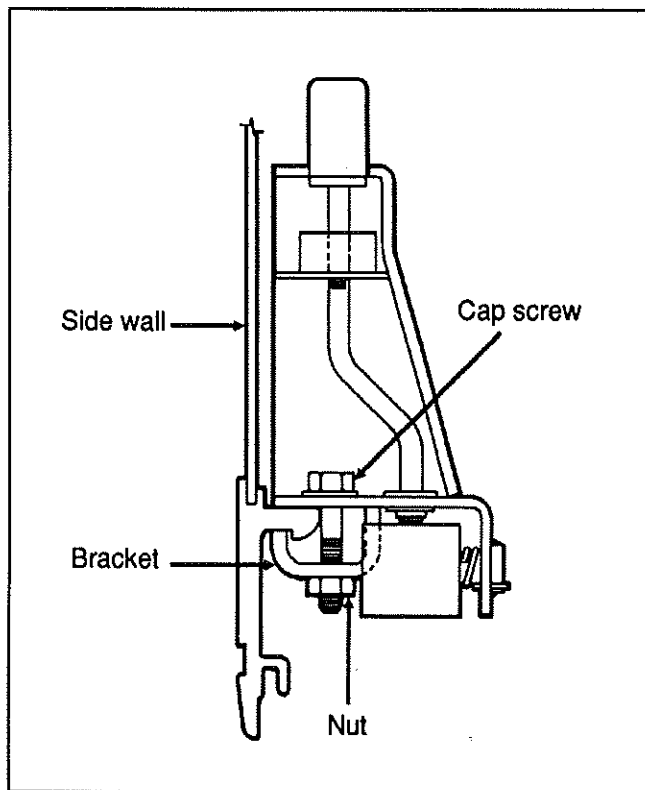

Fig. 20
4. Remove 2 cap screws, nuts, and washers holding seat frame to side wall and retain the 2 holding brackets. See figure 20.